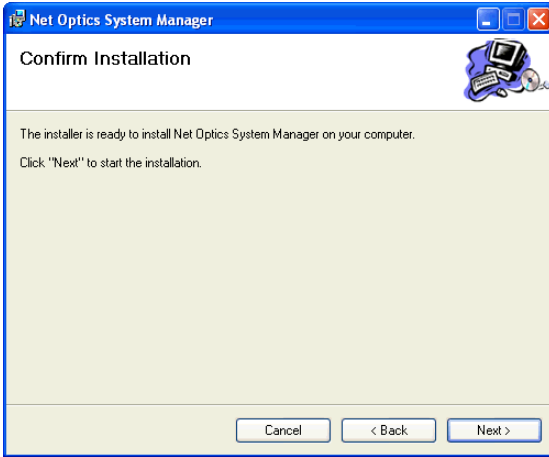
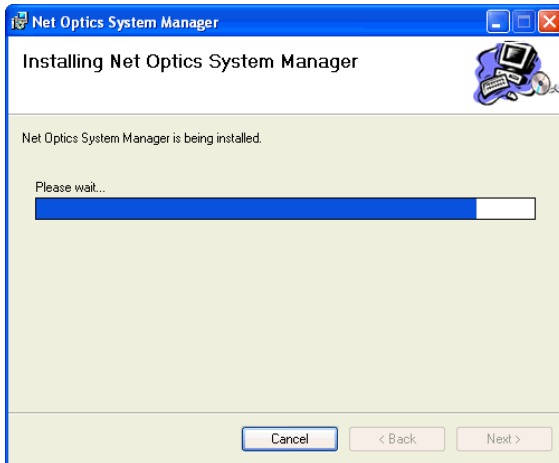

Figure 23: Confirm Installation
Figure 24: Installation Progress
5. Click **Next**. The Confirm Installation dialog box shown in Figure 23 appears. To continue the installation, click **Next**. The Progress dialog box appears as shown in Figure 24.